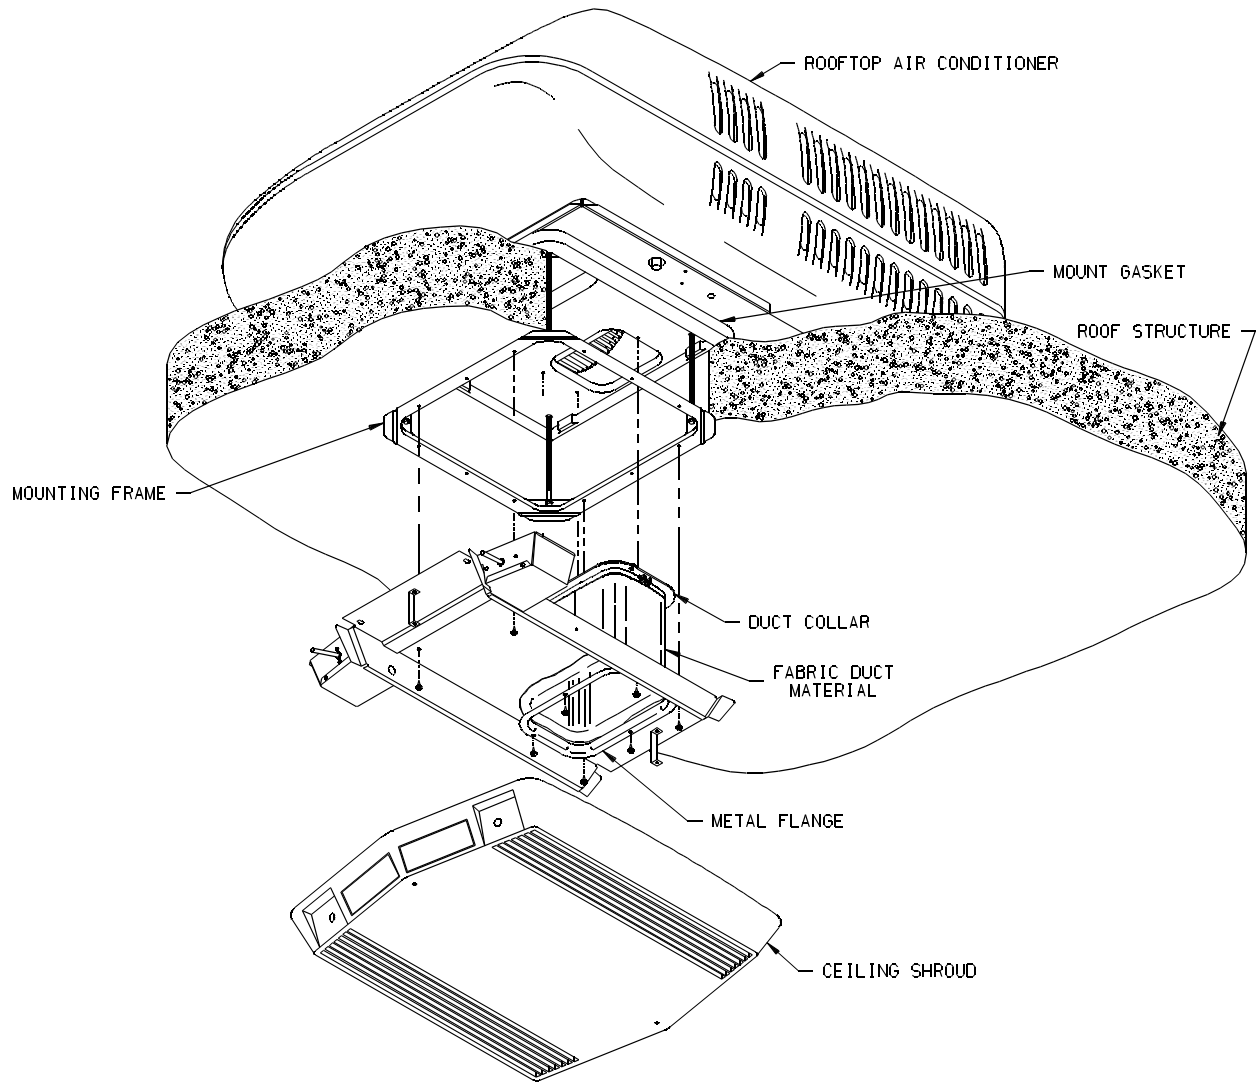

FIGURE 6
- D. Before the ceiling assembly can be mounted to the mount frame, the duct collar must be fastened to the basepan of the heat pump with three (3) screws (See Figure 6).
- F. Pull fabric duct material through ceiling assembly discharge duct opening. Slit the 4 corners of fabric duct which extends below duct opening (See Figure 6).
- G. Place metal flange in discharge duct opening, trapping fabric between it and the ceiling assembly (See Figure 6).
- I. Fasten the metal flange to the ceiling assembly with four (4) screws. **To avoid air noise and restrictions, trim any excess fabric that may extend beyond edge of metal flange.**